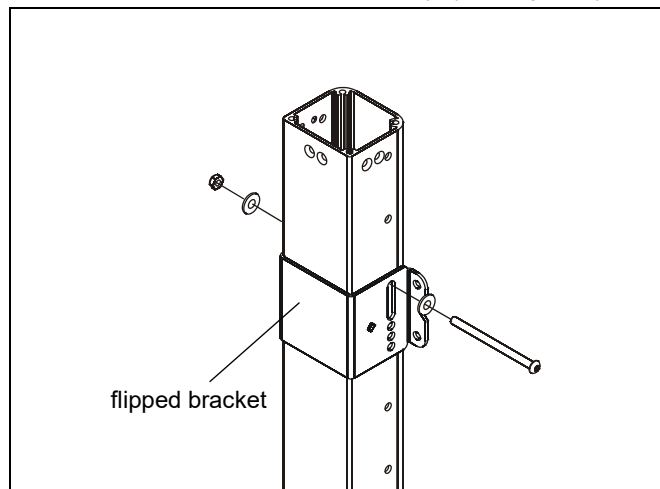

Figure 2
NOTE: Clamp brackets (H) may be flipped in order to use long slots for installation if necessary. (See Figure 2)